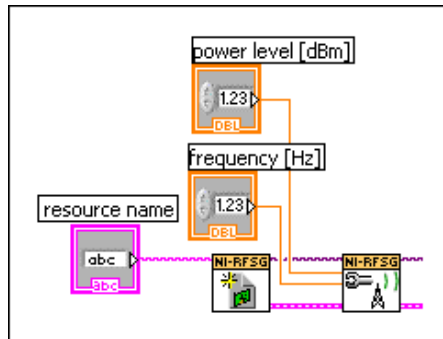

Figure 4. Frequency and Power Level Controls on the Block Diagram
8. Right-click each terminal and select **Create»Control** from the shortcut menu to create frequency and power controls as shown in Figure 4.